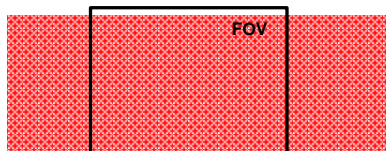

Figure 6 – Aiming Function Using The Blue Ring or Internal Lighting System \*
- Release the button to enter the Aim function. The aiming system turns on see Figure 6.